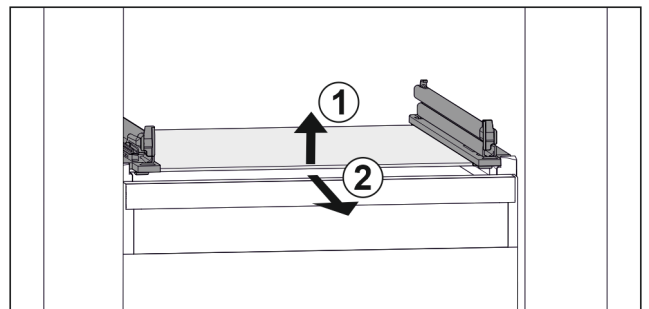

Fig. 106 Example illustration of glass shelf
- Lift glass shelf at the front. Fig. 106 (1)
- Take out glass shelf to the front. Fig. 106 (2)